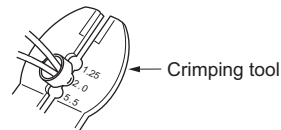

Fig.1-1-6
- d) As shown in Fig.1-1-6, use the crimping tool to crimp the metal sleeve at the center position. Be sure to crimp fully to the complete closure of the tool.